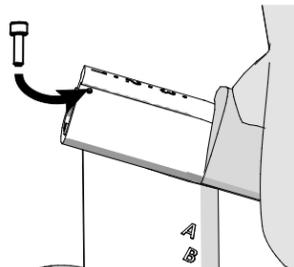

Figure 10
2. Insert one bolt **3** into the post and fully tighten it to set the travel limit (Figure 10).